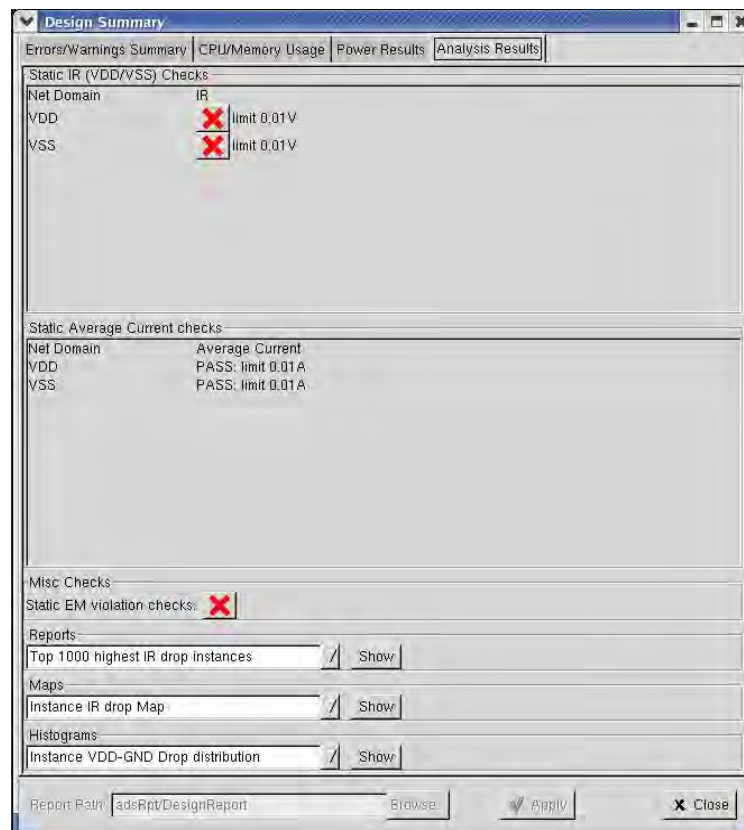

Figure 6-3 Static analysis report from Design Summary
- a. **Static analysis** - the Static Analysis report page shows the results of Static IR (Vdd/Vss) checks, Static Average or Pad Current checks, and Miscellaneous checks, such as static EM violations, as shown in Figure 6-3.